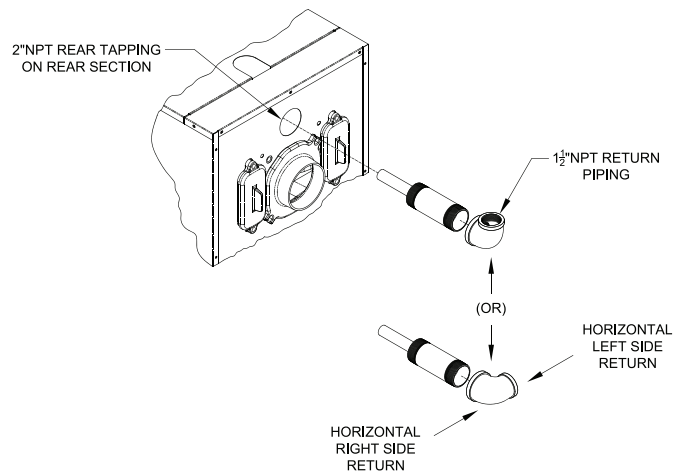

Figure 7: Return Injector Piping and Relief Valve Assembly Details
3. Install return injector piping and relief valve, refer to Figure 7.
Note: Based on system return piping and access to service boiler, see Figures 1, 11A and 11B, predetermine if injector piping orientation is to be positioned for vertical, horizontal left or horizontal right side return piping as shown in Figure 7.